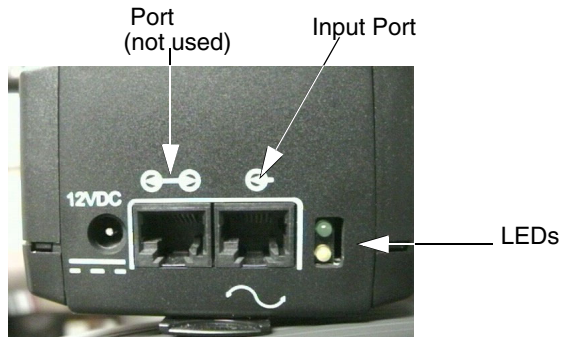

Figure 4-5. PRI Network Interface Module (Peripheral Side)
2. Connect peripheral side of the PRI network interface module to the system using the supplied cable. Figure 4-5 shows the peripheral side of the PRI network interface module.